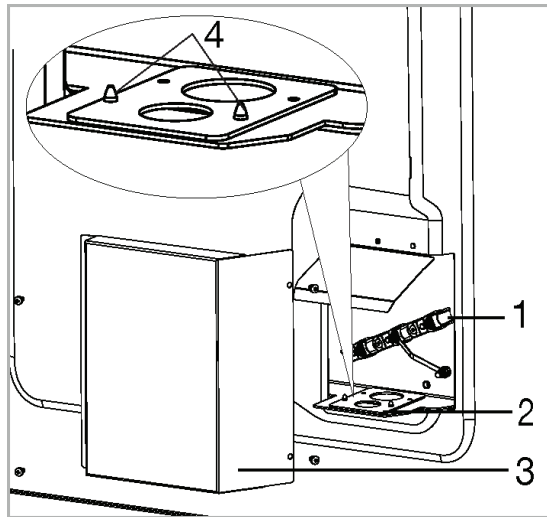

Figure 4
1.Remove the terminal block cover on the back of the range) by removing the screws as shown in figure 4.
2.Remove the power cord/conduit plate (part no 2) shown in figure 4, by removing the two screws that secure it to the range bracket. (Save screws for possible future use.)
1.Remove the terminal block cover (on the back of the range) by removing the screws as shown in Figure 4.